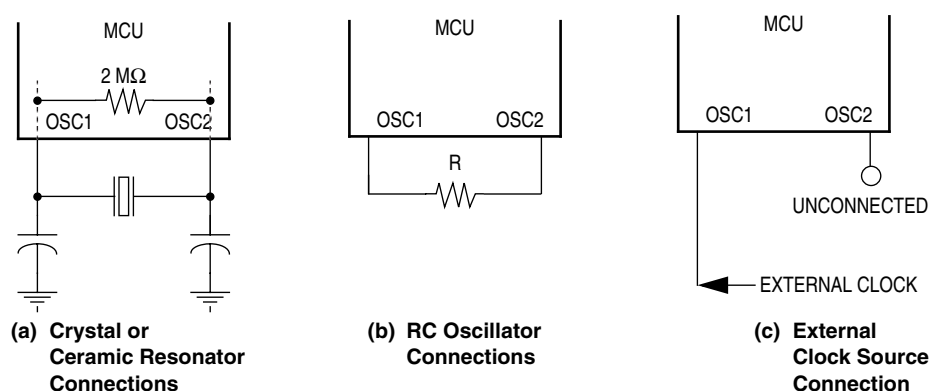

Figure 1-3. EPO Oscillator Connections
1. A crystal as shown in **Figure 1-3 (a)**
2. A ceramic resonator as shown in **Figure 1-3 (a)**
3. An external resistor as shown in **Figure 1-3 (b)**
4. An external clock signal as shown in **Figure 1-3 (c)**
The circuit in **Figure 1-3 (a)** shows a typical oscillator circuit for an AT-cut, parallel resonant crystal. The crystal manufacturer's recommendations should be followed, as the crystal parameters determine the external component values required to provide maximum stability and reliable startup. The load capacitance values used in the oscillator circuit design should include all stray capacitances. The crystal and components should be mounted as close as possible to the pins for startup stabilization and to minimize output distortion. An internal startup resistor of approximately $2\text{ M}\Omega$ can be provided by the shunt resistor mask option between OSC1 and OSC2 for the crystal type oscillator. The crystal configuration is enabled by choosing the crystal selection in the oscillator connections mask option.
In cost-sensitive applications, a ceramic resonator can be used in place of the crystal. The circuit in **Figure 1-3 (a)** can be used for a ceramic resonator. The resonator manufacturer's recommendations should be followed, as the resonator parameters determine the external component values required for maximum stability and reliable starting. The load capacitance values used in the oscillator circuit design should include all stray capacitances. The ceramic resonator and components should be mounted as close as possible to the pins for startup stabilization and to minimize output distortion. An internal startup resistor of approximately 2 M Ω can be provided by the shunt resistor mask option between OSC1 and OSC2 for the ceramic resonator type oscillator. The ceramic resonator configuration is enabled by choosing the crystal selection in the connections oscillator mask option.
The lowest cost oscillator is the RC oscillator configuration where a resistor is connected between the two oscillator pins as shown in **Figure 1-3 (b)**. The internal startup resistor of approximately 2 M Ω is not recommended between OSC1 and OSC2 for the RC-type oscillator.
An external clock from another CMOS-compatible device can be connected to the OSC1 input, with the OSC2 input not connected, as shown in **Figure 1-3 (c)**. This configuration is possible regardless of whether the crystal/ceramic resonator or RC oscillator configuration is used.